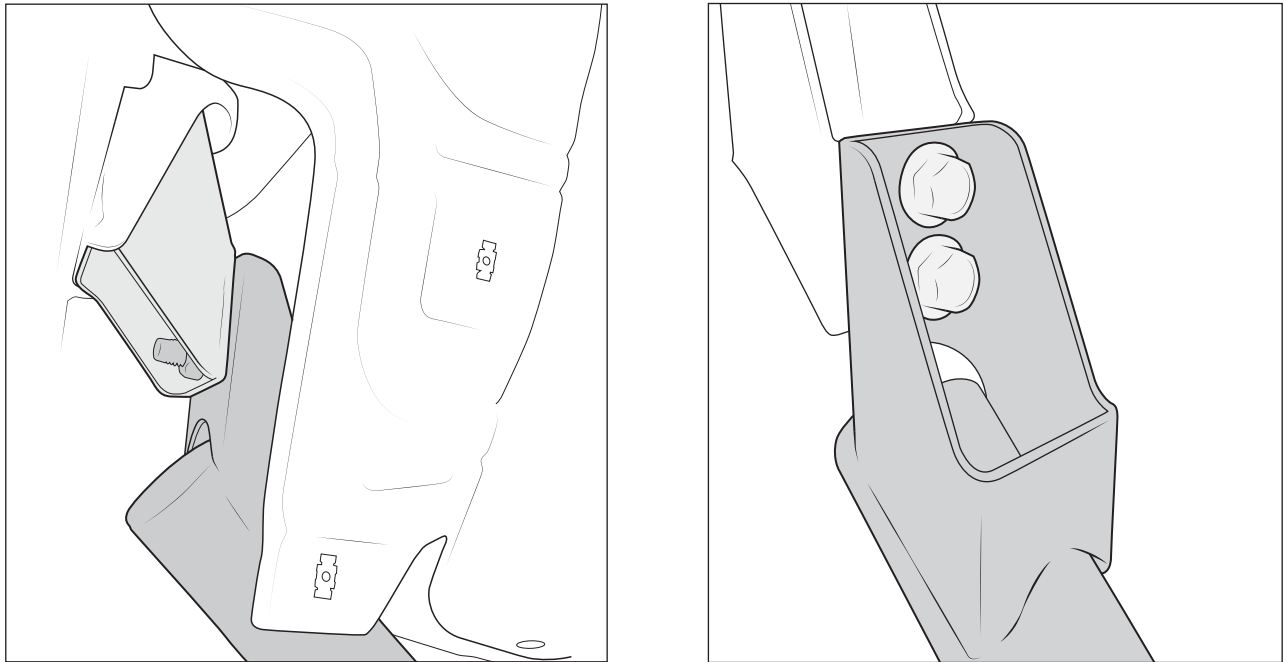

Figure 12
E. Start 4 supplied M12 Bolts into the AEV frame brackets to secure bumper tubes to frame (fig 12).